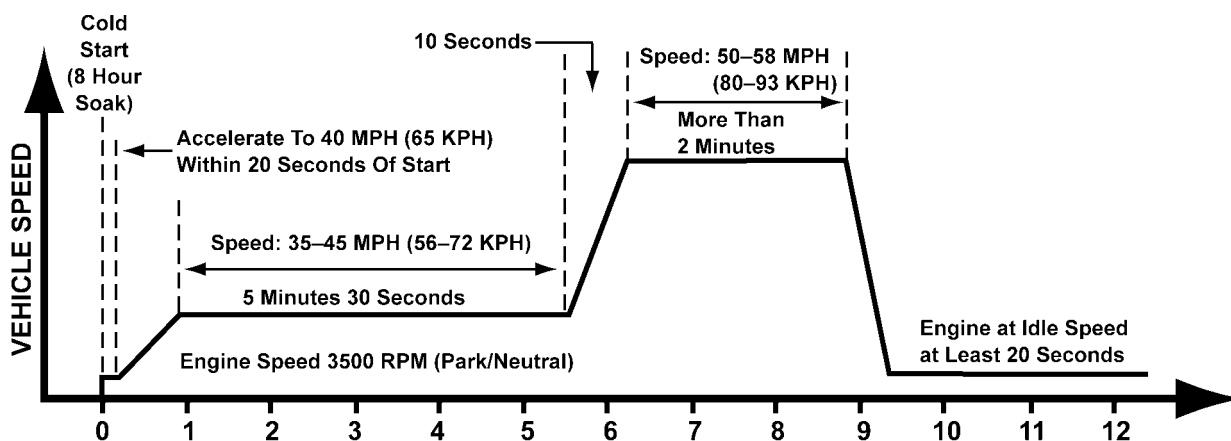

Figure MA000-17
3. Drive vehicle as indicated by the graph (Figure MA000-17).